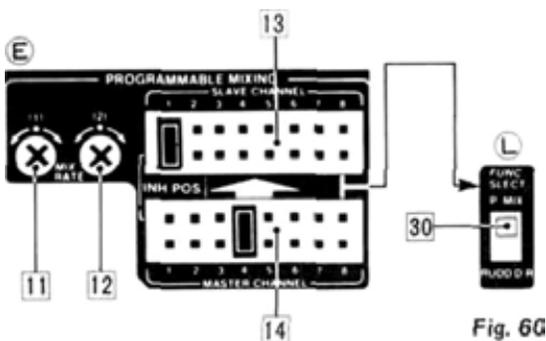

Fig. 60
## EXAMPLE 3. Fig. 60.
1. Set the mixing panel as in Fig. 60 to provide mixing from Rudder to Aileron.